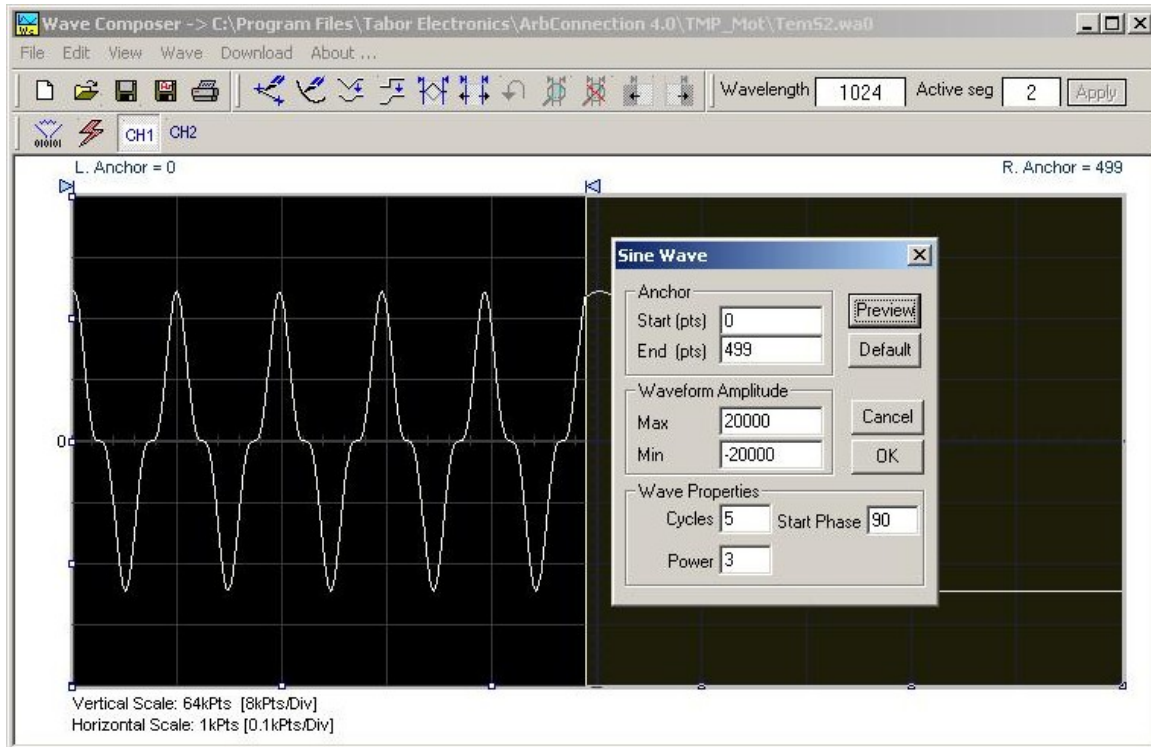

Figure 4-33, Generating Distorted Sine waves from the built-in Library
Use the following procedure to create sine waveforms from the built-in library. Click on Wave, then sine... the dialog box as shown in Figure 4-33 will appear. You can now start programming parameters that are available in this box.
- 2) You can also place your anchors in a more precise manner from the waveform library by programming the start and end points for the waveform. An example of anchor placement using the sine dialog box is shown in Figure 4-33.